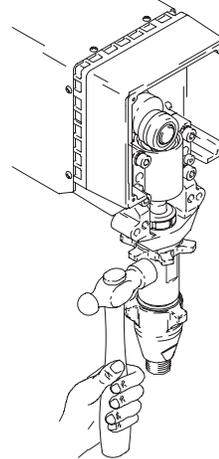

Fig. 25
- Fig. 25. Screw jam nut down onto pump until stops. Screw pump up into bearing housing until it is stopped by jam nut. Back off pump and jam nut to align pump outlet to back. Tighten jam nut by hand, then tap 1/8 to 1/4 turn with a 20 oz (maximum) hammer to approximately 75 ± 5 ft-lb (102 N·m).